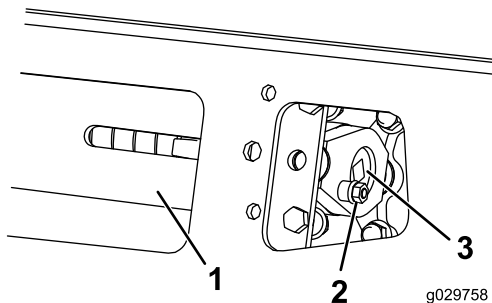

Figure 58
4. Remove the locking bolt and nut (Figure 58).
6. Align the closest notch in the tension screw to the locking-bolt hole and secure the screw with the locking bolt and nut (Figure 58).
5. Using a 1/2-inch drive ratchet, release the drive tension by turning the tensioning screw clockwise (Figure 58 and Figure 59).
12. Using a 1/2 inch drive ratchet, turn the tensioning screw counter-clockwise until the tensioning screw bottoms out (Figure 58).